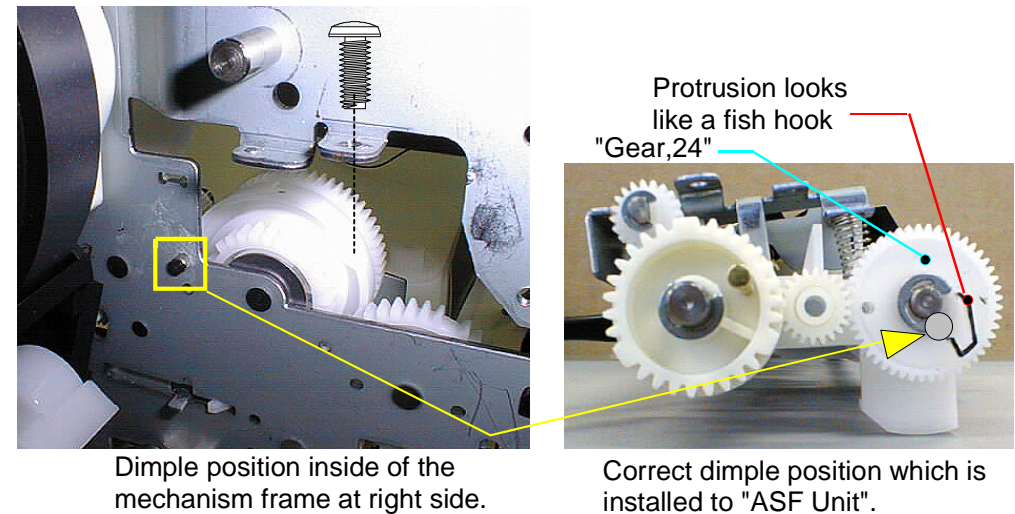

Figure 4-120. Dimple position to touch "Gear,24" at installing "ASF Unit"
- *There is a protrusion(looks like a fish hook) on the surface of "Gear,24". In the condition that "ASF Unit" is installed to the main unit, the dimple at the back side of the mechanism frame should be in the certain position as it is shown in Figure4-120. If the dimple is located in the wrong position, arrange the installing position of "ASF Unit" so that the dimple is located in the correct position.*